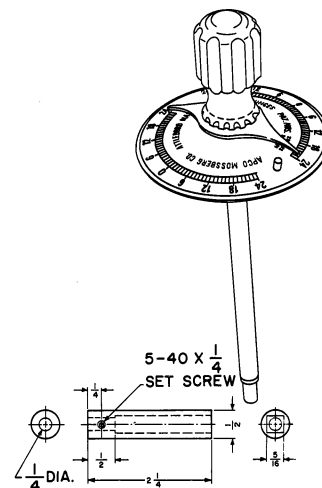

Figure 3. TORQUE GAGE G17-38000
16. Push spring (13) on gear (14) and insert shaft assembly (12) through gear.
17. Position gear (14) to mesh with gears (16 & 18) while maintaining position of gears (18 & 24) as described in steps 13 and 15. Winding key (10) must be turned counterclockwise for replacement.
18. Hook spring (22) in groove of mounting shaft of gear (16).
19. Using torque gage G17-38000 (Figure 3), available from Graflex Inc., or from Apco Mossberg Co., Attleboro, Mass., check the clutch torque at the winding key. Place the gage on the winding key and rotate main gear assembly (24) counterclockwise. The torque reading must be 8 to 16 inch-ounces.